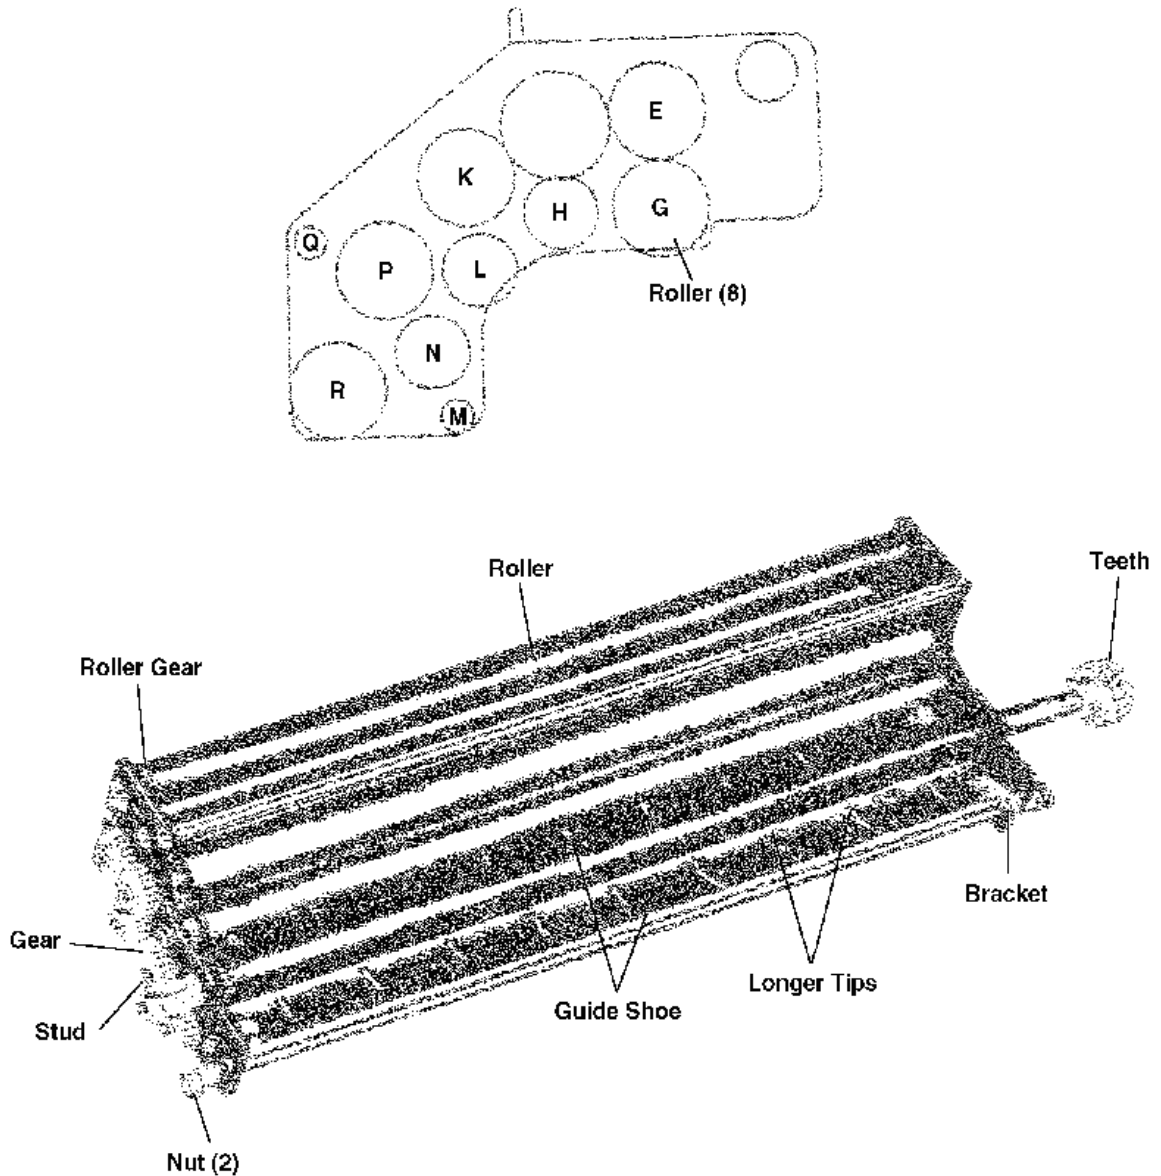

Figure 2-10. Squeegee assembly.
(5) Check the bearing, brackets, and nuts. Examine the bearings, brackets, and nuts for signs of wear or breakage. Replace if necessary.
(6) Check the drive gear. Examine the drive gear for signs of wear or burrs. Replace if necessary.
f. **Inspect the Squeegee Assembly.** Refer to figure 2-10.
(1) Ensure rollers turn freely. Check that all rollers turn freely. Be sure the three idler rollers spin freely. Idler rollers are H, L, and N in figure 2-10.
(2) Clean the rollers. Clean all rollers by wiping them daily with a damp cloth. If deposits accumulate, use warm water and a plastic abrasive material such as Scotch-Brite.
(4) Check the resilient roller. Check for smoothness. Replace if necessary.
(5) Check the guide shoes. Examine ribs and tips of the guide shoe for burrs. Refer to figure 2-10.